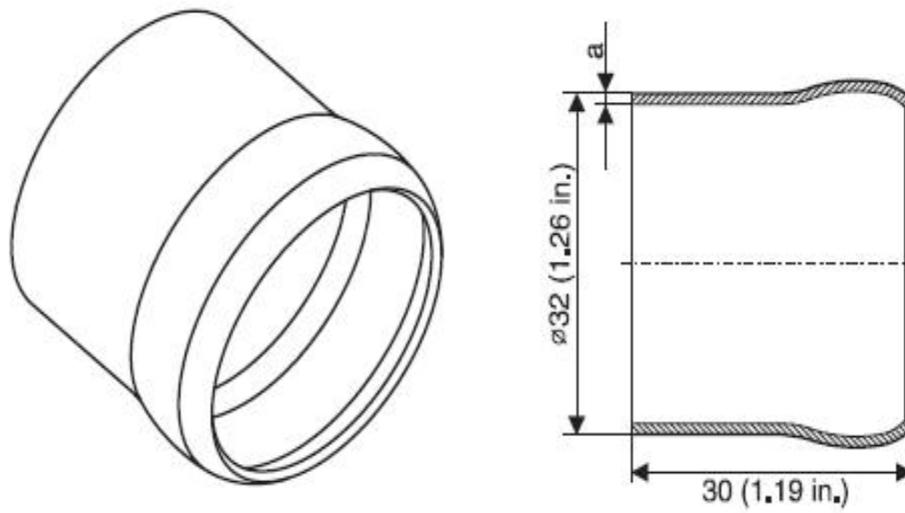

Fig.18
**Ball joint,male** (see Fig 18), Material/thickness: X15CrNiSi20-12(DIN 1.4828)( stainless steel); a=1 mm (0.04 in.).